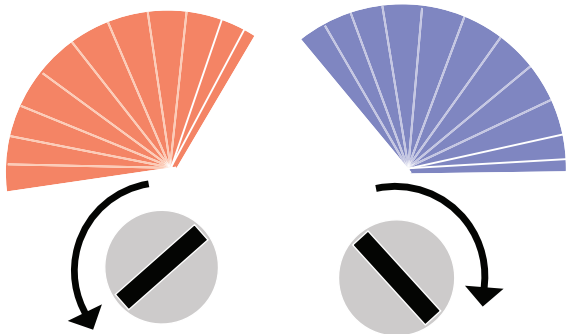

Fig. 7-5
- 1 With a screwdriver, rotate the 2 floodjet nozzles within the nozzle caps (See Fig.7-5) on the colored venturi air induction fittings on black nozzle bodies until the spray pattern is generally forward with a slight angle to the outside, so there is less overlap in the center.